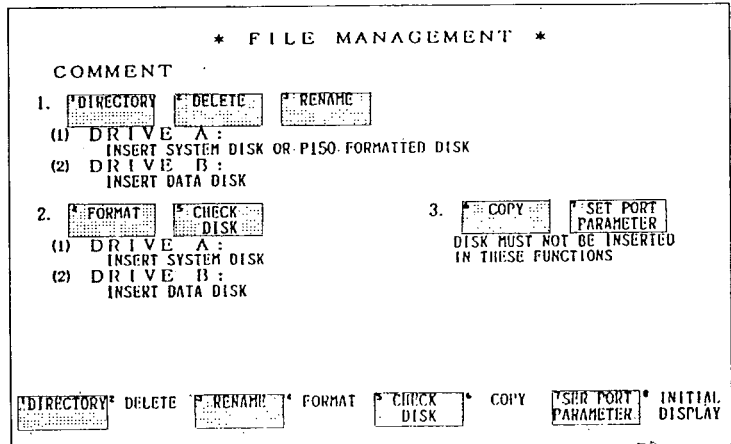

Fig. 7.113
- Depressing **INITIAL DISPLAY** key as shown in Fig. 7.113 also calls up the initial (Menu List) display again.